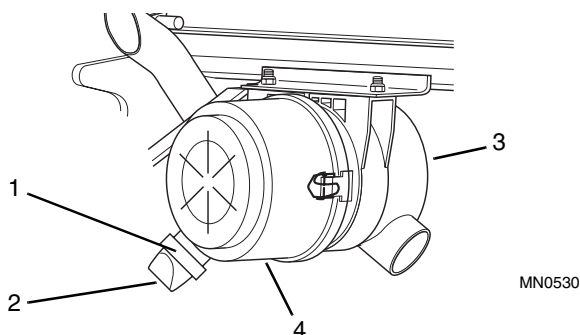

Figure 10-8 Air Cleaner Vacuator Valve and Housing
Remove dust and dirt from the vacuator valve (Fig. 10-8, 1). The lips (2) of the automatic dust ejector must close but not adhere or stick together.
3. Remove dust from vacuator valve (Fig. 10-8, 1) by squeezing bottom of vacuator (2) to allow loose particles to fall out. Replace elements, if required (Refer to Section Fig. 10.9.4, "Change Air Filter Elements").
4. Inspect the engine air cleaner canister (Fig. 10-8, 3), canister cover (4), and all intake piping for cracked hoses, loose clamps, or punctures which can damage the engine. If necessary, tighten or replace parts to prevent air intake system leakage.